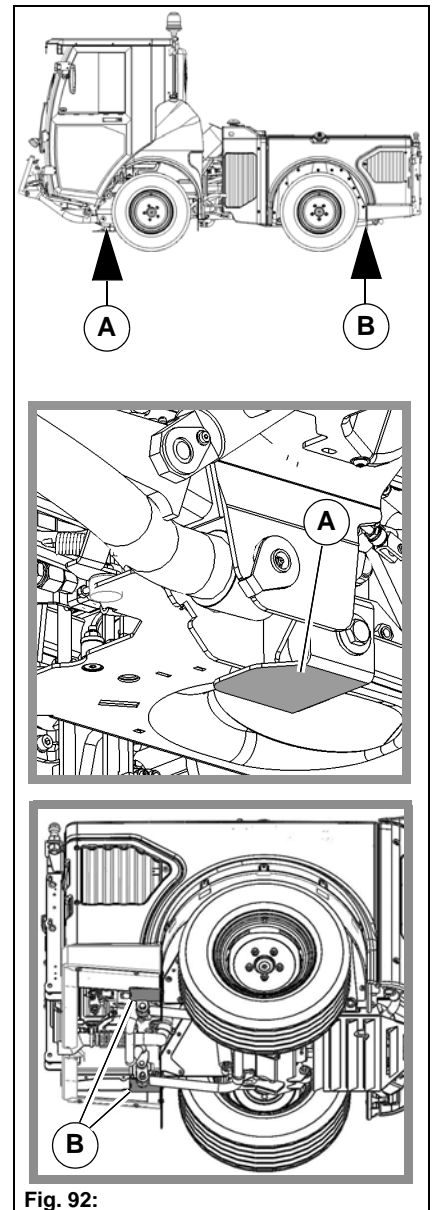

Fig. 92:
2. Attach the jack stably to the jacking point **Fig. 92-A** or **Fig. 92-B**.